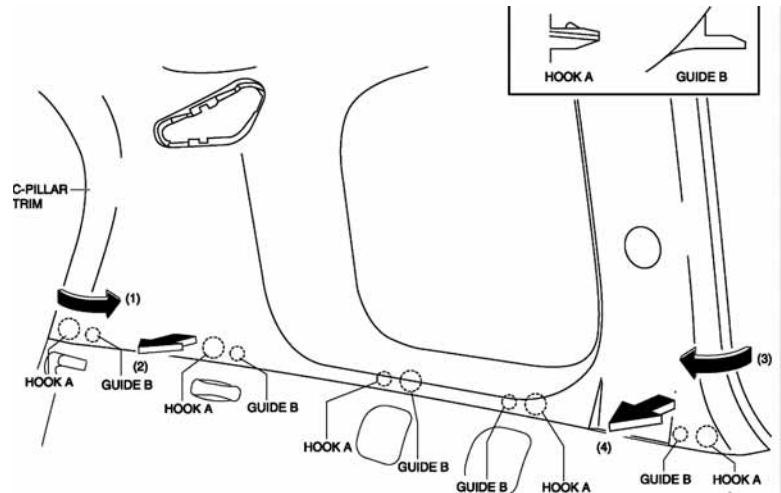

FIGURE 46
- 5.) PULL THE TRUNK SIDE TRIM IN THE DIRECTION OF ARROWS (1), (2), (3), AND (4). REMOVE CLIPS C AND PIN D. (SEE FIGURE 46)